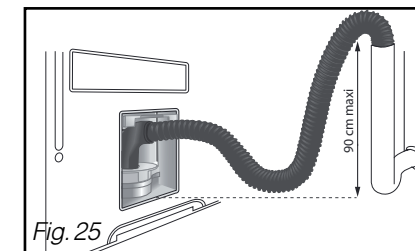

Fig. 25
- To a ventilated trap (Fig. 25).